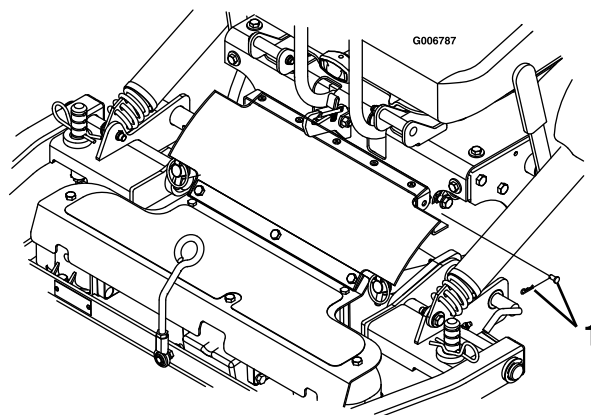

Figure 21
3. Remove the hair pins and clevis pins from both sides of the PTO guard (Figure 21).